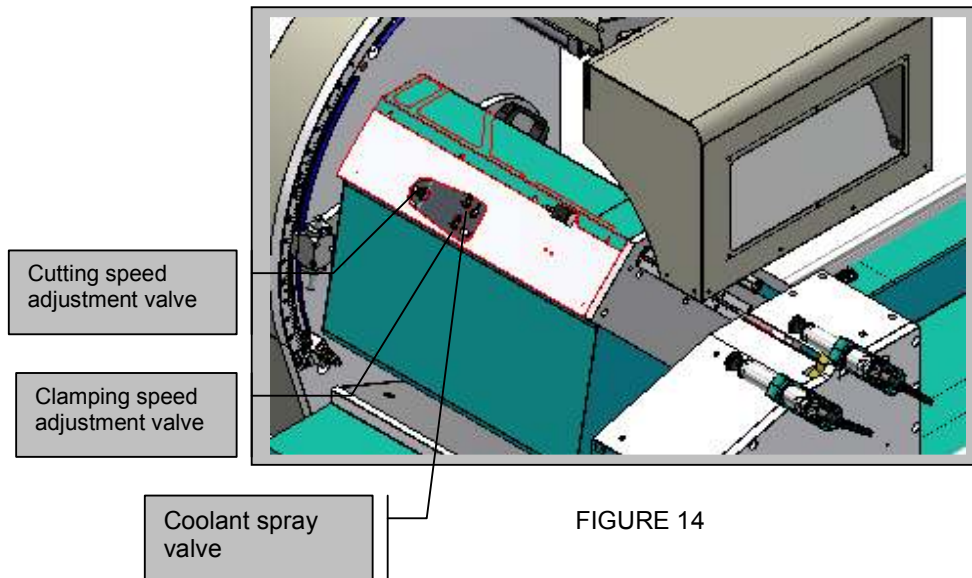

FIGURE 14
**4.7.2.** The two saw blade groups can be adjusted independently from each other through the reducer valves located on the hydro-pneumatic system at both cutting heads. (See Figure 14)
**4.7.3.** If the cutting speed is too high, turn the cutting speed adjustment screw (See Figure 14) in clockwise direction until the desired speed has been reached. If the speed is too low, turn the adjustment screw in reverse direction.